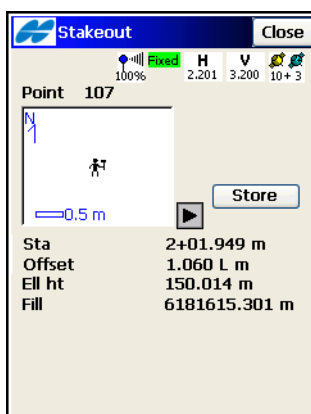

Figure 9-47. Stakeout
5. For GPS+: use the information on the **Stakeout** screen (Figure 9-47 on page 9-36) for finding the target. Tap **Store** after the position is close enough to the desired point (Figure 9-47 on page 9-36).